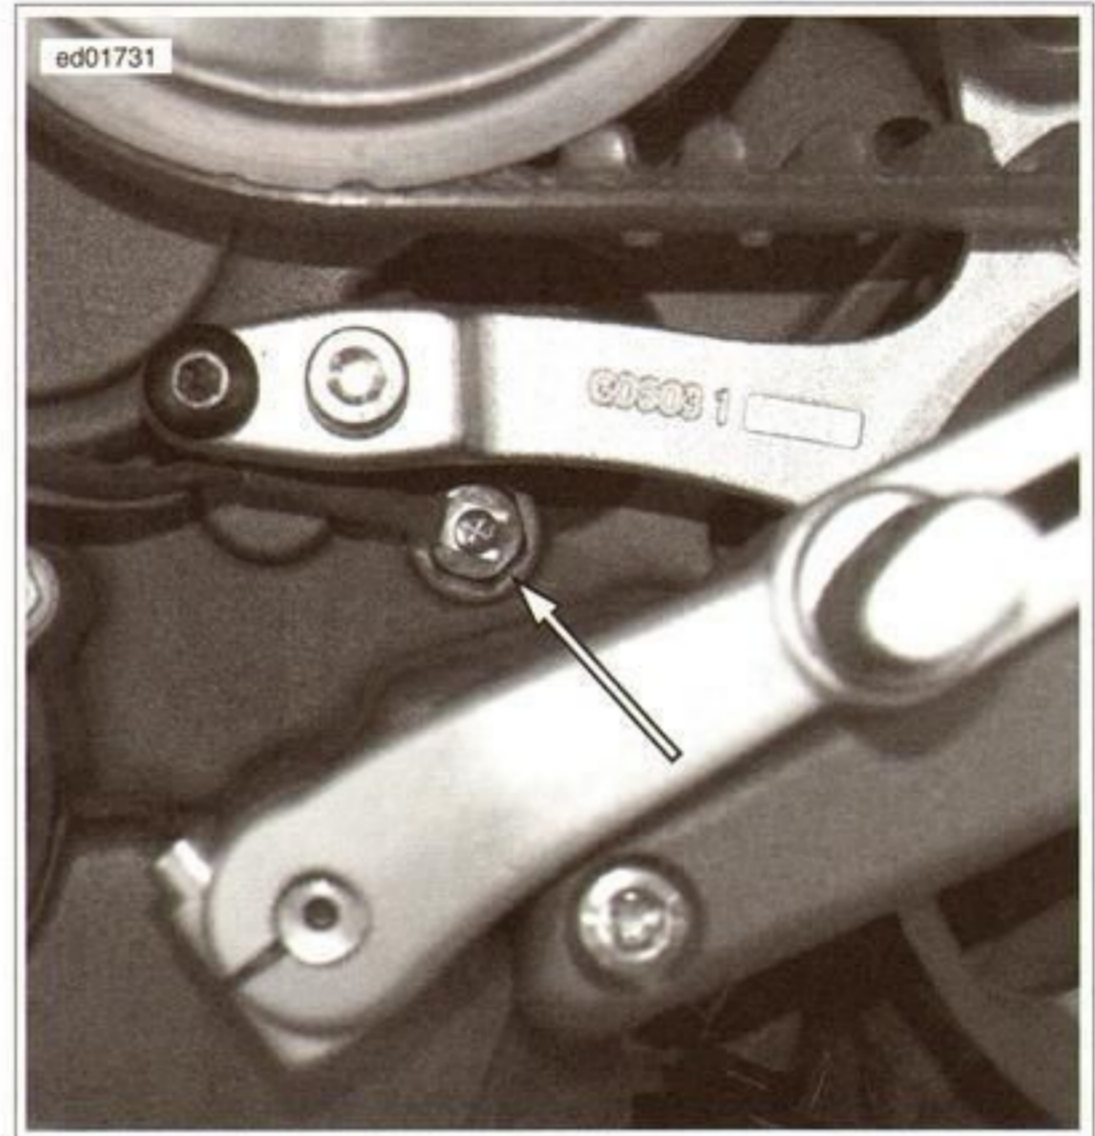

Figure 6-14. Neutral Switch Location
See Figure 6-14. The neutral switch is located on the right side of the engine case, under the front pulley. The switch is activated when the shift lever is in neutral. In addition to providing an interlock function in the starting circuit, activation of the switch also illuminates the neutral (N) lamp on the instrument cluster.